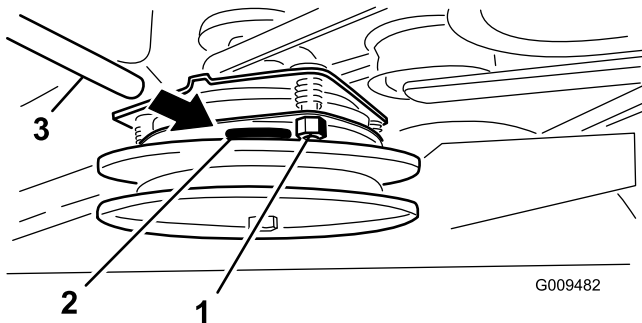

Figure 54
3. Tighten the locknuts until there is a slight binding on the feeler gauge, but it can be moved easily within the air gap (Figure 54).